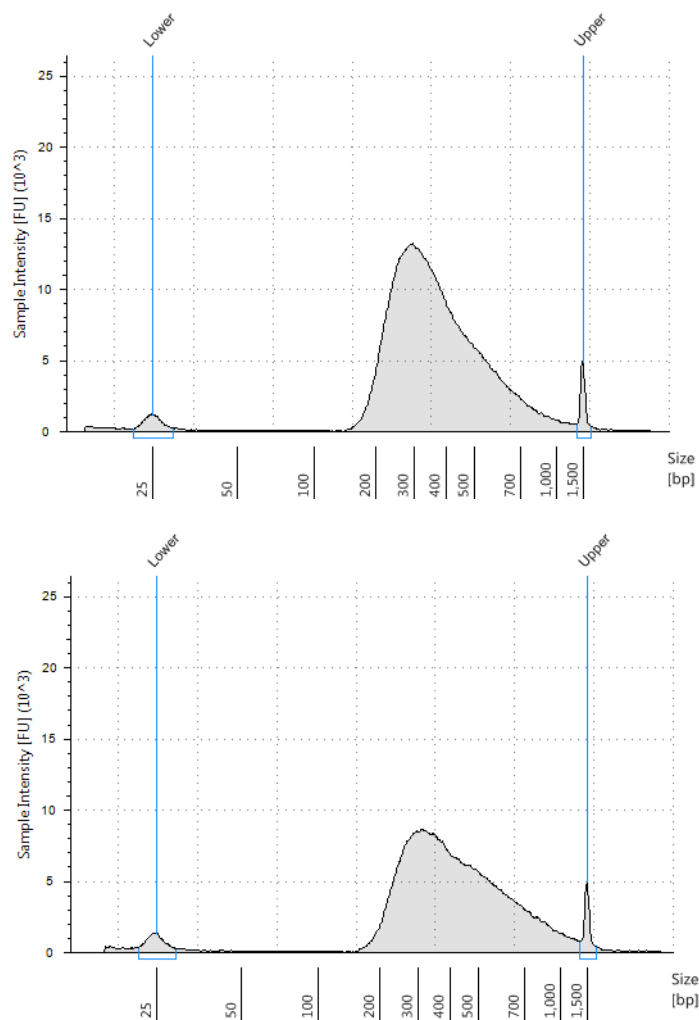

Figure 6 Representative sample electropherograms showing pre-capture analysis of amplified library DNA using a D1000 ScreenTape.
- 3 Verify that the electropherogram shows the peak of DNA fragment size positioned between 245 to 325 bp. Sample electropherograms are shown in **Figure 6**. Variability of fragmentation profiles may be observed.